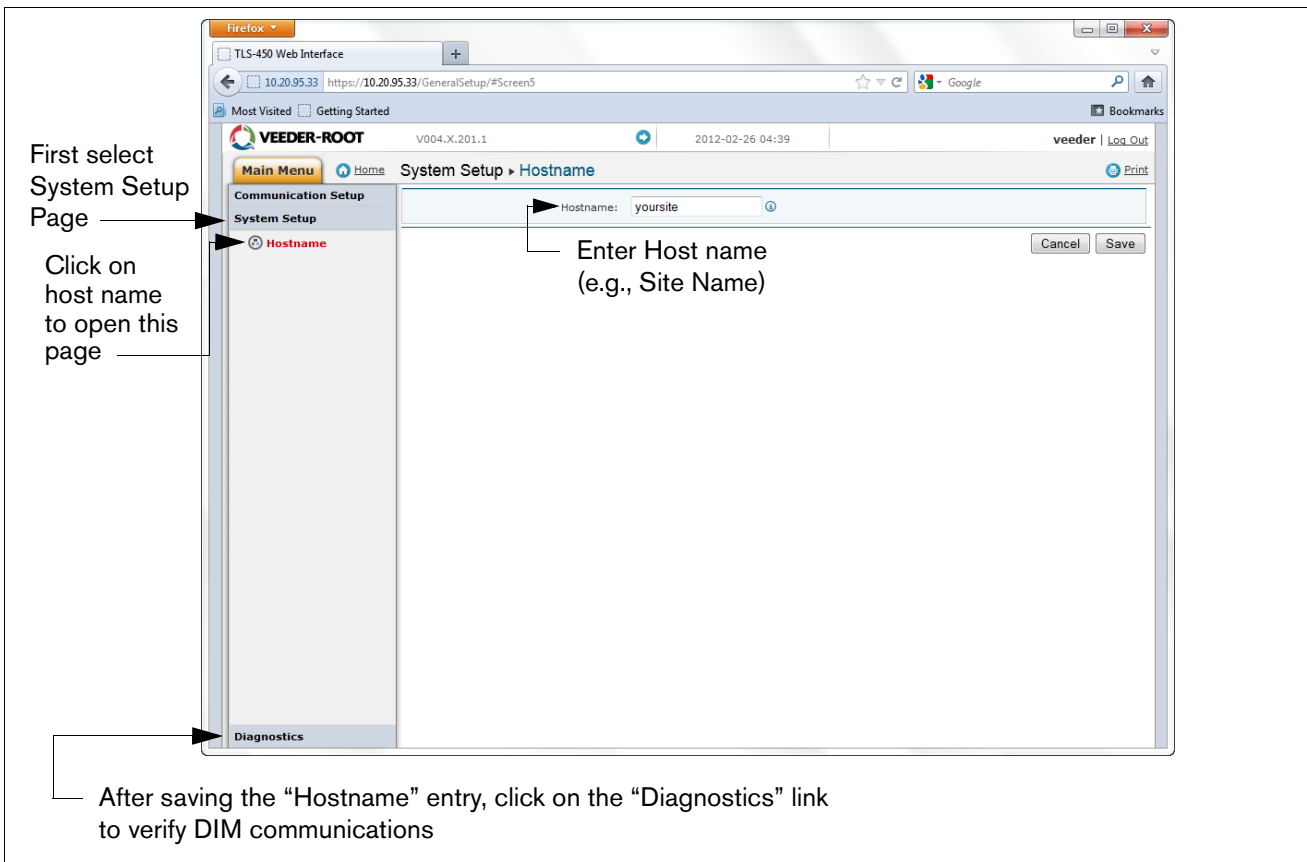

Figure 16. Entering Host name
13. Select the "System Setup" page and type in the Host name and then click the "Save" button (see example in Figure 16). It is recommended that you use the network name assigned by the network administrator or some other name that identifies the location. While on this page click the Diagnostic Page link (bottom Left).